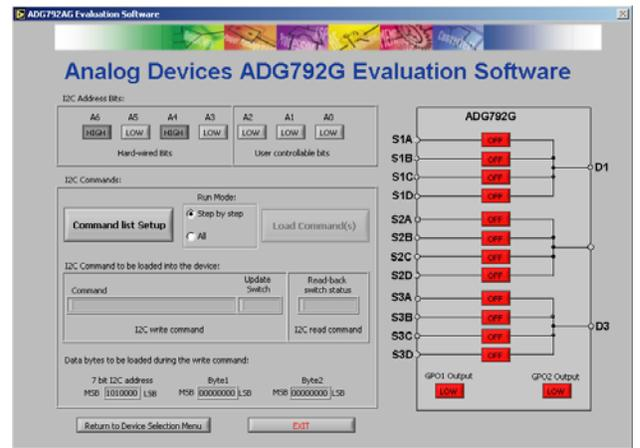
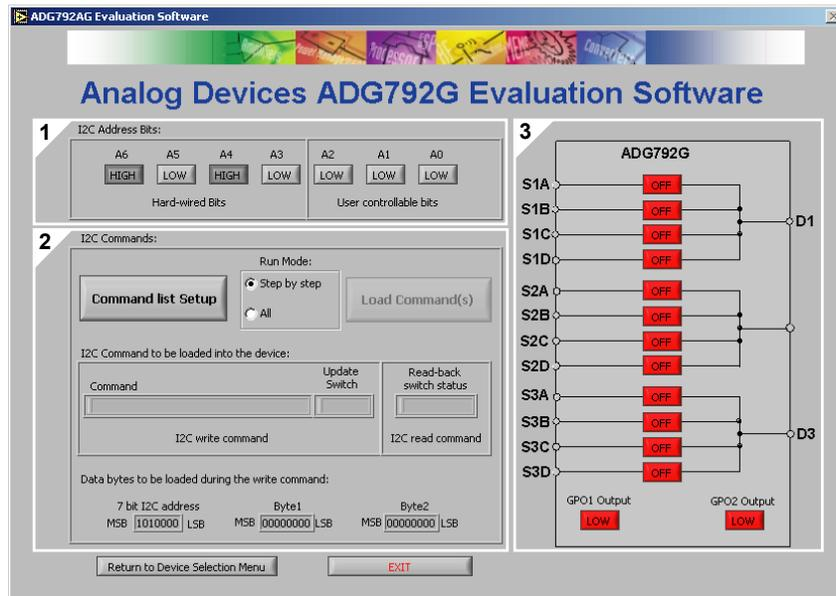
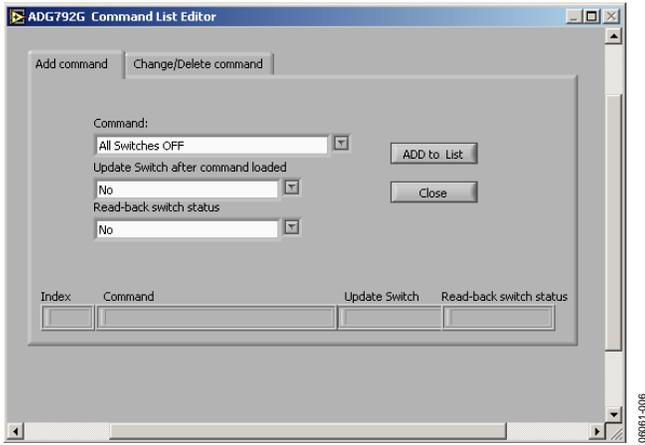

Figure 4. Main Window for ADG792G Evaluation Software
Figure 5. Main Window Setup
Figure 6. Setup Command List Window
5. After the desired device is selected, a new window opens as shown in Figure 4.
6. Figure 4 represents the main window for ADG792G but it is similar to the main windows for all ADG79XX devices. Each main window has the control elements highlighted in Figure 5.
This section (Section 1 in Figure 5) lets you set the I2C address to be sent to the evaluation board. These user-controllable bits must be set to match the configuration of J3, J7, and J8 from the evaluation board.
This section (Section 2 in Figure 5) lets you establish a list of commands to be sent to the board. The commands can be sent in step-by-step mode or all at once. After loading a command, the software gives you the option of updating the switch and/or reading back the switch status. The evaluation software is designed to update the switch configuration only if the **Update Switch** option is set to **Yes**. This option sets the LDSW bit accordingly (see data sheets) and allows you to execute a set of commands in a single step. See the Command List Setup section for more information.
This section (Section 3 in Figure 5) shows the current status of the switches and GPO pins (if available). If the **Read-back switch status** (see Section 2 in Figure 5) option is set to **Yes**, the software reads the status of the switch and updates the diagram.
1. Click the **Command List Setup** button from the **I2C Commands** section (Section 2 in Figure 5). The window in Figure 6 is displayed.
4. When the list is complete, close this window to return to the main window (Figure 5).
6. To edit/delete an item from the list at the bottom of the window, select it and click the **Index** button until the desired item is displayed. If the **Change to** option button is selected, three drop-down lists allow you to change the selected item. Any edit/delete command is completed by clicking the **OK** button. The updated item then appears in the list at the bottom of the window. When the editing is complete, click **Close** to return to the main window (Figure 5).